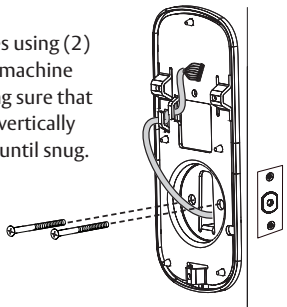

Figure 4B
5. Secure both assemblies using (2) M6 x 54mm pan head machine screws (Fig. 4B), making sure that outside escutcheon is vertically aligned. Hand-tighten until snug. **Do not over-tighten**